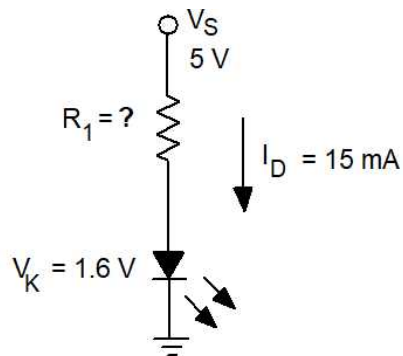

Figure 3-65.
- 3-53. The LED given in Fig. 3-65 is to have a forward current of 15 mA. Determine the required value for the current-limiting resistor R_1 . Use an internet search to select the nearest standard 5%-tolerance resistor value.
- 3-55. A common failure mode for an LED is for it to become a short circuit. What is the power dissipation in resistor R_I in Fig. 3-65 under *normal* operating conditions? Find the power dissipation in R_I if the LED becomes shorted.